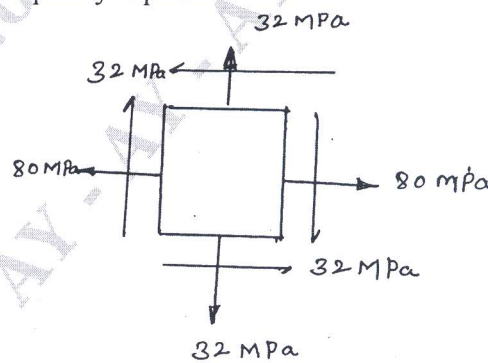

Fig Q3(b)
b. At a certain point in a strained material the values of normal stresses across two planes at right angles to each other are 80 MPa and 32 MPa, both tensile and there is a shear stress of 32MPa clock wise on the plane carrying 80MPa stresses across the planes as shown in Fig Q3(b). Determine: